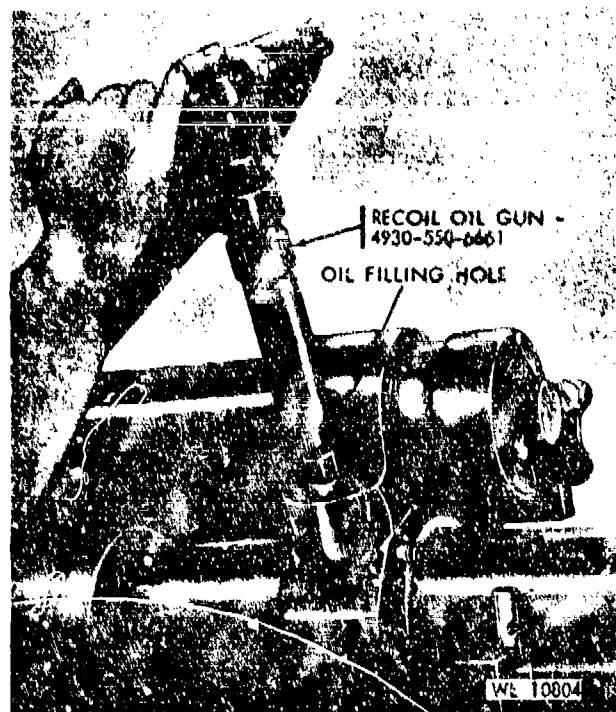

Figure 4-34. Establishing oil reserve.
(3) *To reestablish the oil reserve.* To reestablish the oil reserve (fig 4-34) screw the nozzle of the gun into the filling hole, taking care not to cross the threads. Before tightening, turn the handle and force out any air in the filling hole. Operate the gun with both hands and avoid any lateral pressure, which might possibly break the threaded nozzle. When the oil index indicator rod shows a full reserve, unscrew the gun and install the filling plug.